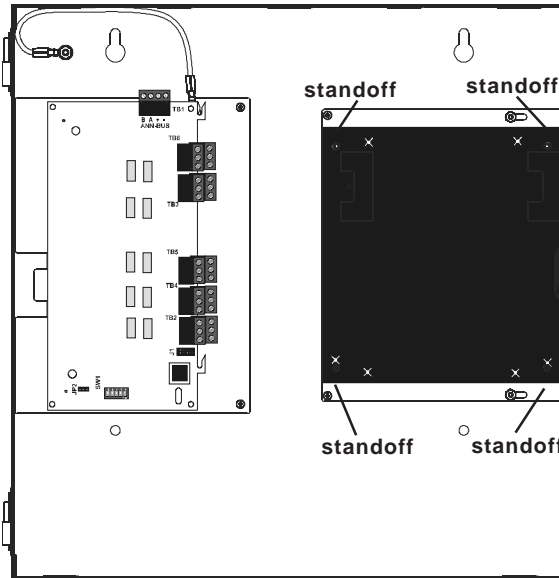

Figure 6
3. Install the supplied module insulating pad on the MULTIMOD-BRKT bracket by aligning the four outer holes with the four standoffs on the bracket and pressing the pad onto the standoffs and flat against the bracket as illustrated in Figure 6.